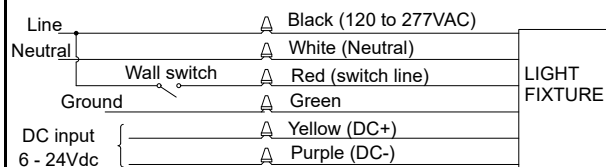

Figure 2
5. Make electrical connections. (See figure 2)